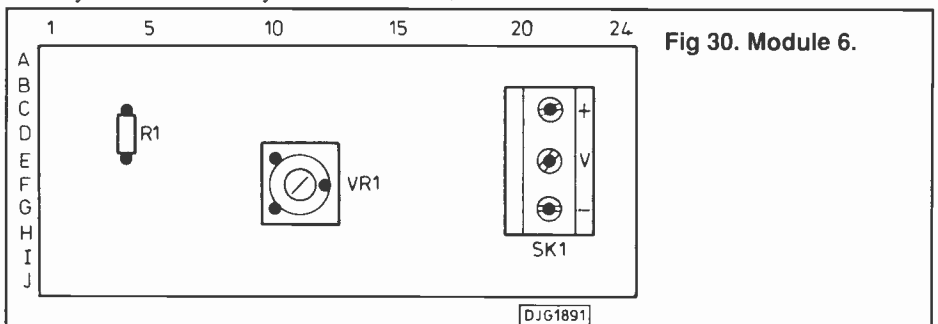

Fig 30. Module 6.
The circuit of this is similar to Fig.3 of the article in PE March 90, except that it has a variable resistor in place of the fixed resistor. This allows you to set the output level (V) obtained for a given temperature. Fig.30 shows the thermistor (R1) soldered on the board, but you could instead use a pair of flexible wires to join the thermistor to two thermal pins at C5 and E4.